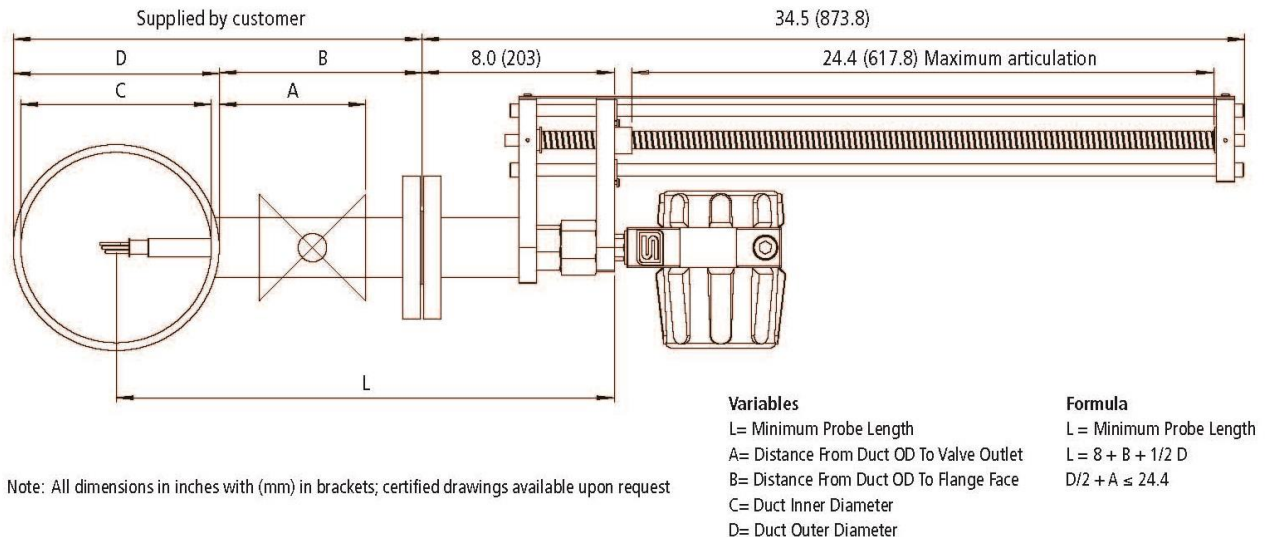

Figure 2-3. High Pressure Tap Insertion Depth
2. Calculate the flow meter insertion depth as shown in Figure 2-2 for a low pressure tap or Figure 2-3 for a high pressure tap.